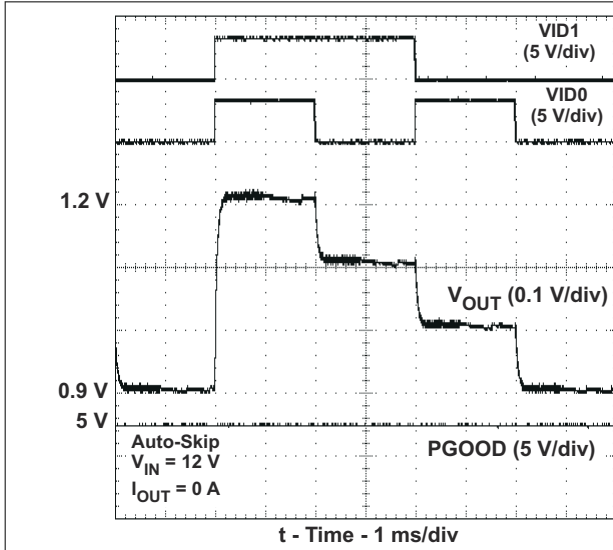

Figure 6-14. Output Voltage Step-Down
2. Ensure pulse configuration is return-to-zero (RZ) with 50% duty ratio.
3. Run the pulse generator. V_{OUT} steps down from 1.2 V to 0.9 V as shown in Figure 6-14.